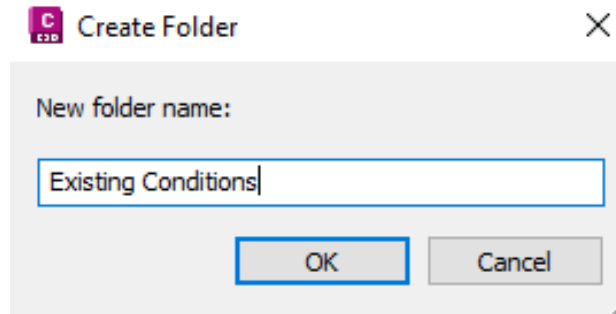

Figure 2.15 – Naming folders for each Civil 3D object
2. Once selected, we'll type in the new folder name. In this case, we'll start by typing Existing Conditions, and then select the **OK** button (refer to *Figure 2.15*).
Important to note is that we cannot currently create folders for all objects listed. If you were to right-click on **Points** or **Point Groups**, you would not be presented with an option to create a folder like you were with **Surfaces**. That said, let's apply the preceding workflow to each of the remaining Civil 3D objects that we're able to, with the final product appearing similar to the following, each with **Existing Conditions**, **Incremental Design Conditions**, and **Proposed Conditions** folders (refer to *Figures 2.15* and *2.16*).